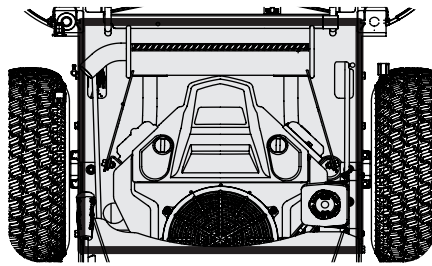

Figure 7
- Clean around the exhaust manifold, fuses, all wiring and harnesses, muffler pipe, muffler shield, engine intake screens and cooling fins, etc. See Figure 7.